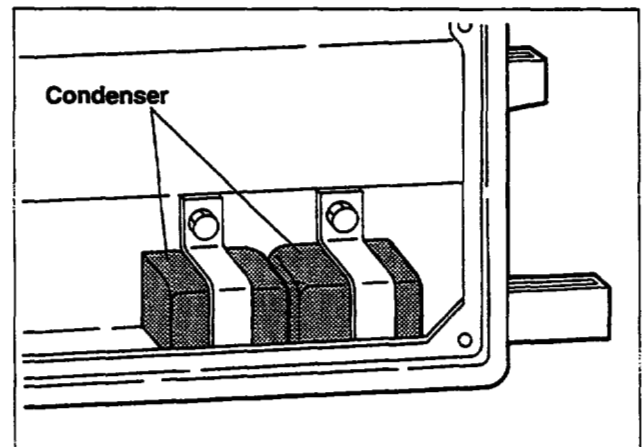

Fig. 11-2
- * If an instrument (QC-meter or C-meter) for measuring capacity of condenser is available, check the capacity of condenser. (See Fig. 11-2.)